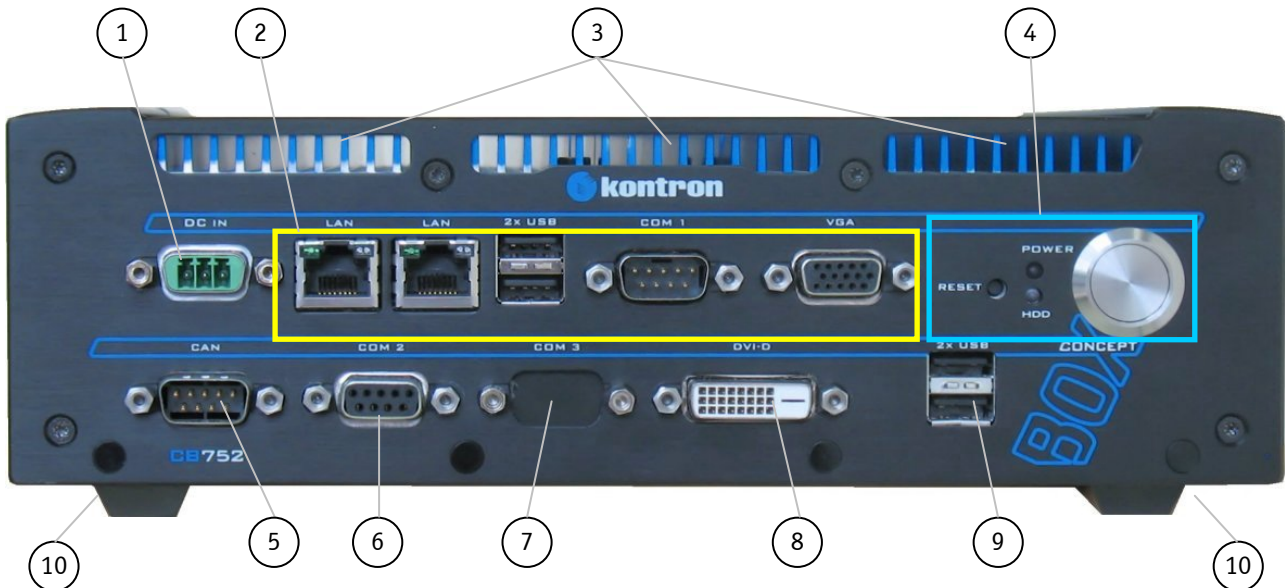
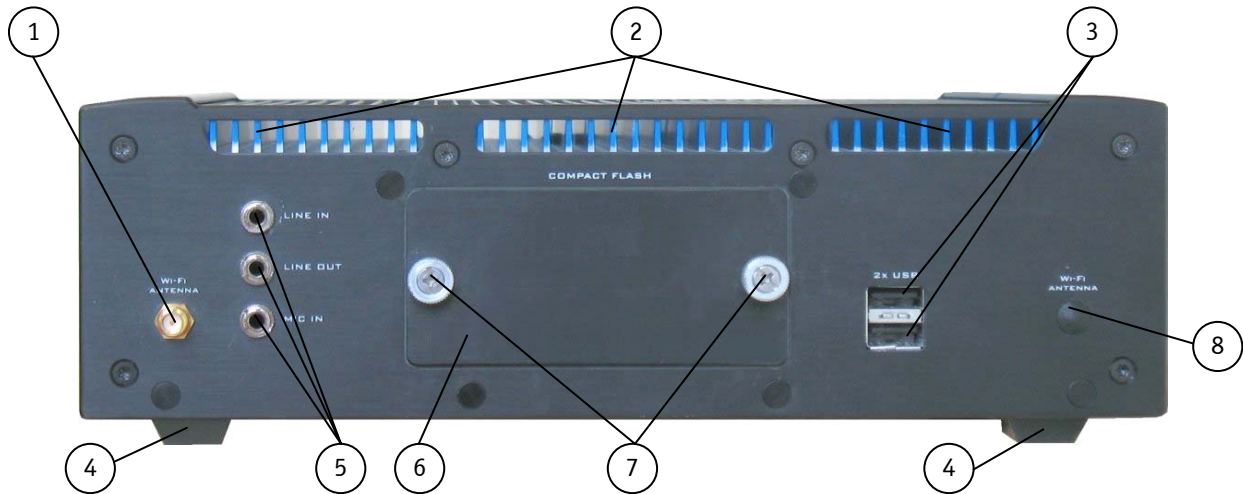

Fig. 9: CB 752 – Front view
Fig. 12: CB 752 rear side with one (of two possible) WiFi antenna connector
When switching on the CB 752, make sure that the air openings on the front side (Fig. 9, pos. 3) and the rear side (Fig. 12, pos. 2) and the cooling fins of the chassis are not obstructed (covered) by any objects. To provide sufficient heat dissipation for the cooling of the device, do not cover the cooling fins of the CB 752. Do not place any objects on the device. When installing the platform, please note the clearance recommendation in the chapter 11.2 “Mechanical Specifications”.
The 3-pin connector (Fig. 9, pos. 1) provides the power connection of the CB 752 platform to the appropriate main power supply. Please pay attention to chapter 8.1 “Connecting to DC or AC Main Power Supply”.
This interface (Fig. 9, pos. 8) is the external DVI-D connector of the internal LVDS to DVI-D converter. The DVI interface only supports digital data transfer with maximum resolutions of 1280 x 1024 (SXGA). A DVI-D cable has to be used (not included).
This serial port (Fig. 9, Pos. 6) can be custom configured as RS422 or RS485.
If an additional serial port is needed, a RS232 interface can be installed to the position marked with COM3 (Fig. 9, pos. 7). In this case the upper USB port at the rear side (Fig. 12, pos. 3) is not functional (see chapter 6.2.2 “USB Ports”).
If you have ordered the CB 752 equipped with the additional serial interface COM3 (Fig. 9, pos. 7), please note that only the lower USB port (Fig. 12, pos. 3) at the rear side is functional (refer to the section 6.2.2 “USB Ports”).
The CB 752 system with equipped COM3 (Fig. 9, pos. 7) is delivered with mounted cover to the upper not functional USB port (Fig. 12, pos. 3). Do not remove this cover.
This interface (Fig. 9, pos. 5) can only be factory-configured to the customer's specifications. The installed LPC-to-CAN bus module provides a galvanic isolation of 500VDC.
To these Jacks (3.5 mm; Fig. 12, pos. 5) loudspeakers/headphones (Line-Out), a recording/playing device (Line –In) and a microphone (Mic-In) can be connected.
The CB 752 platform provides two USB2.0 ports on the rear side (Fig. 12, pos. 3). You can connect various USB devices to these USB 2.0 interface connectors.
If you have ordered the CB 752 equipped with the additional serial interface COM3 (Fig. 9, pos. 7), please note that only the lower of the USB ports (Fig. 12, pos. 3) at the rear side is functional (refer also to the section 6.1.4.3 "Optional serial Port COM3 (RS232) via USB").
The CB 752 system with equipped COM3 (Fig. 9, pos. 7) is delivered with mounted cover to the upper not functional USB port (Fig. 12, pos. 3 as shown in Fig. 13). Do not remove this cover.
Depending on the ordered system configuration, the CB 752 platform can be equipped with WiFi hardware expansion (with one or two antennas). If you have ordered a system configuration including WLAN, at the rear side a Reverse (RP) SMA-connector is installed (Fig. 12, pos. 1) for screwing on the provided WLAN antenna.
During the installation of the CB 752 system an antenna (not provided) (Fig. 14) will be screwed on to the RP SMA connector (Fig. 12, pos. 1). The antenna can be tilt and rotated in the appropriate position to get the optimal transmission and reception quality.
- 1 Reverse (RP) SMA antenna connector
To gain access to the CF slot or to the CF card and to the lithium battery, you have to loosen the two knurled screws (Fig. 12, pos. 7) and to remove the access cover (Fig. 12, pos. 6).
During operation the CF slot access cover must be attached and secured with the knurled screws (Fig. 12, pos. 7).
By default, an internal 2.5" SATA-/SSD HDD (not accessible) and/or a CompactFlash™ card (IDE) (accessible) can be installed in the CB 752 platform. The CompactFlash™ card can be accessed from the rear side via the removable access cover (see Fig. 12, pos. 6).
2. Loosen the knurled screws (Fig. 12, pos. 7) that secure the CF slot access cover (Fig. 12, pos. 6) to the chassis.
2. Loosen the knurled screws (Fig. 12, pos. 7) that secure CF slot access cover (Fig. 12, pos. 6) to the cover.